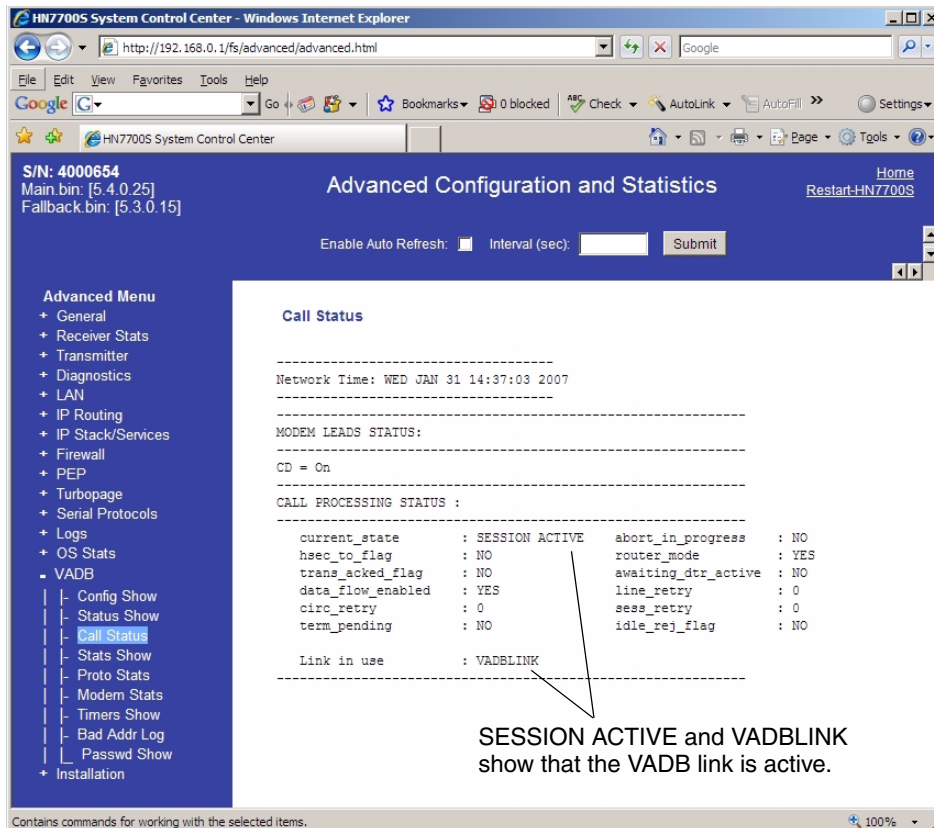

Figure 57: Verifying the VADB link
- b. Verify that VADBLINK appears in the Link in use field as shown in Figure 57.